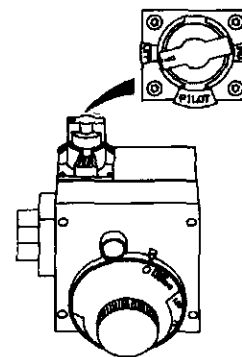
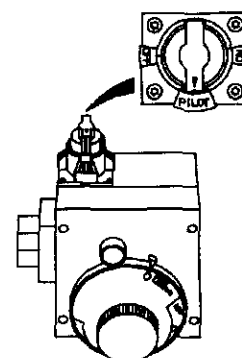

Figure 6
Figure 7
4. Turn gas control knob clockwise (↻) to "OFF" position. Knob cannot be turned from "PILOT" to "OFF" unless knob is depressed slightly. **DO NOT FORCE.** (Figure 6, page 20)
5. Wait five (5) minutes to clear out any gas. If you then smell gas, STOP! Follow "B" in the safety information above on this label. If you don't smell gas, go to the next step.
8. If you don't smell gas, turn knob on gas control counter clockwise (↺) to "PILOT" position. (Figure 7, page 20)
9. Push in control knob all the way and hold down. Immediately light the pilot with a match. Continue to hold control knob in for about one (1) minute after the pilot is lit. Release knob and it will pop back up. Pilot should remain lit. If it goes out, repeat steps 3 through 8.
- If the pilot will not stay lit after several tries, depress and turn the gas control knob clockwise (↻) to "OFF" and call your service technician or gas supplier. (Figure 6, page 20)